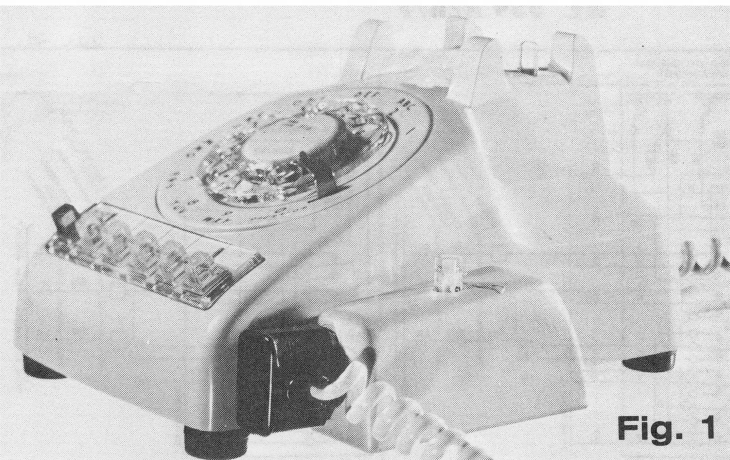

Fig. 1
1. The GB416 Applique unit is arranged to mount on the right hand side of the telephone set. It should be located as shown in fig. 1 or to the best suitable position for job application.